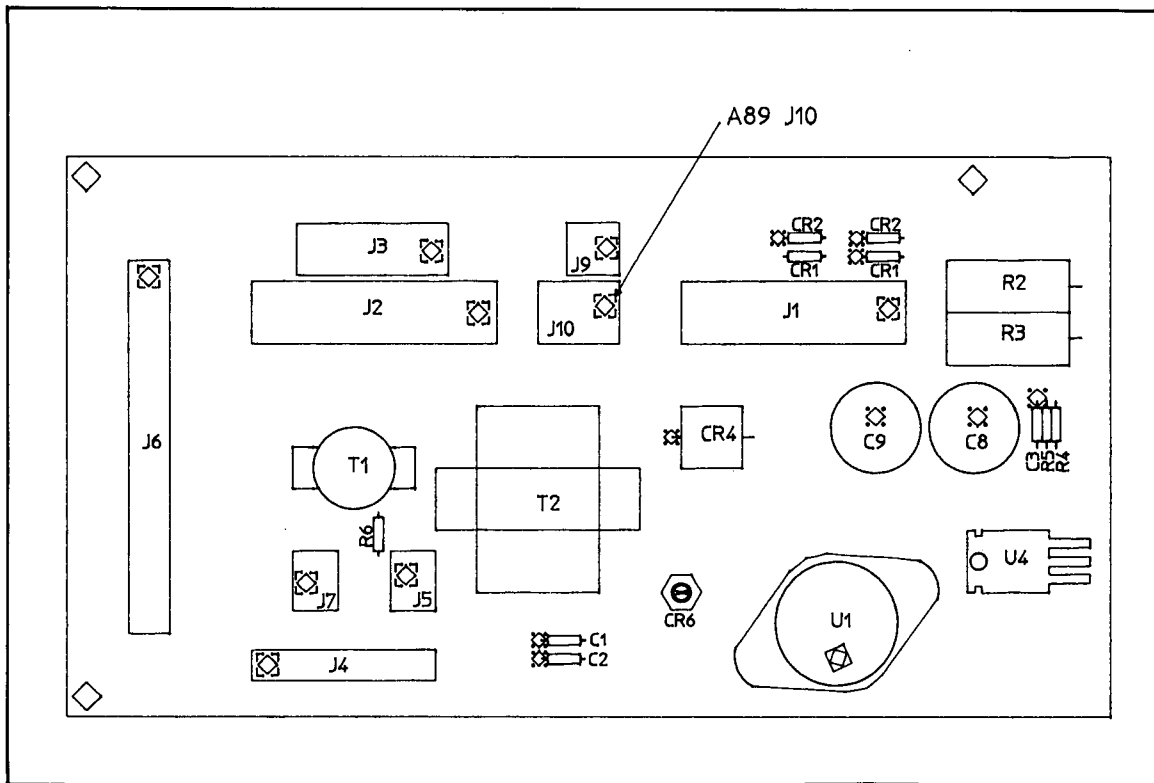

Figure 5-21. Power Distribution (A89)
b. Disconnect A89J10 to remove power to the Input/Conversion section (see Figure 5-21).